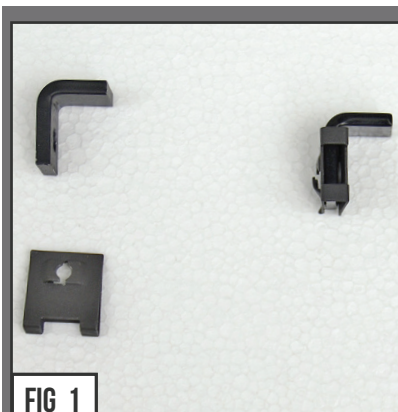
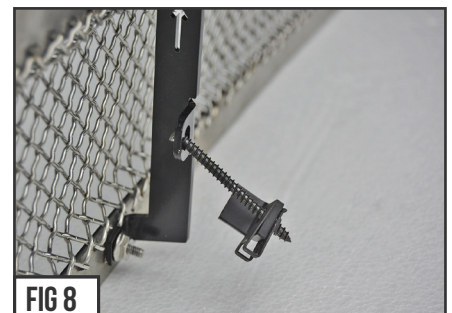

FIG 1
FIG 8
Note the orientation in Figures 1 & 2. Set aside to use later in just a few more steps.
SEE FIGURES 8 & 9
6) Take your assembled hardware from Step 2 & Figure 1, thread onto the screw a good turns. Make sure to note that the L Shaped Anchor Bracket presents the tab as seen in Figure 8.